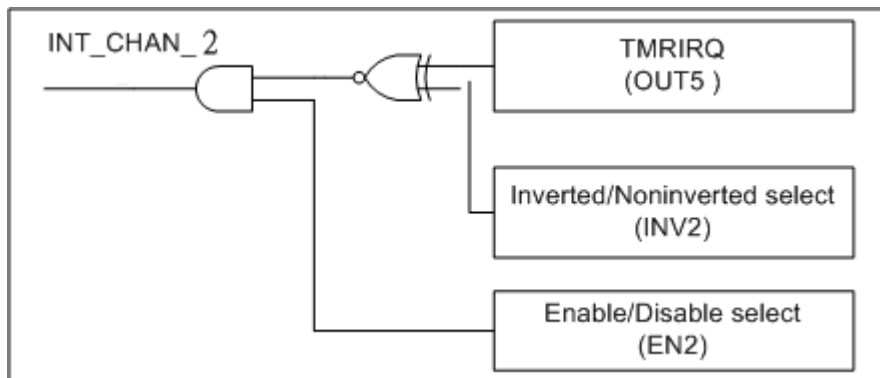

Figure 2.9
Figure 2.9 illustrates the control method of timer interrupt. Note that the signal source comes from OUT5. The INV2 can be used to invert/non-invert the Trigger signal source and EN2 is used to disable/enable the timer interrupt (Refer to Sec.2.5 for the source of interrupt signal). **Note that the INT\_CHAN\_2 must be fixed in low level state normally and generated a high\_pulse to interrupt the PC.** Because Counter4 and Counter5 are cascaded together, it can be used as 32-bit timer base on 4 MHz clock source.
1. The EN2 can be used to enable/disable the INT\_CHAN\_2 as follows: (refer to Figure 2.9 and Sec. 3.1.4)
2. The INV2 can be used to invert/non-invert the TMRIRQ as follow2: (Refer to Figure 2.9 and Sec. 3.1.6)